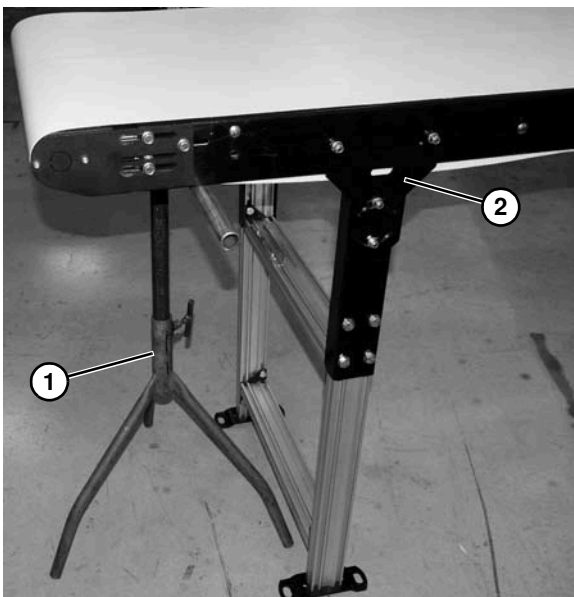

Figure 72
1. Place temporary support stands (**Figure 72, item 1**) at both ends of the conveyor.
2. Remove mounting brackets (**Figure 72, item 2**) from one side of conveyor.